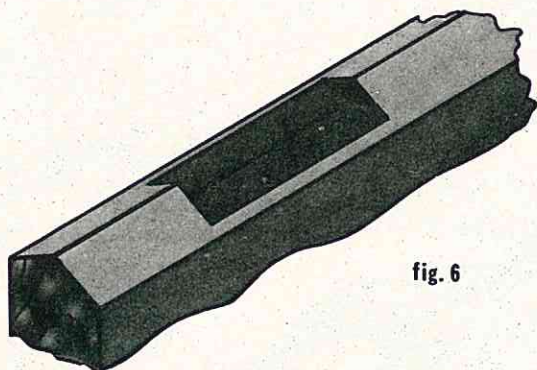

fig. 6
STEP 5. Cut out the 1/16" triangular strips from the VEE'd edge on each side of the hinge web. (Fig. 6)